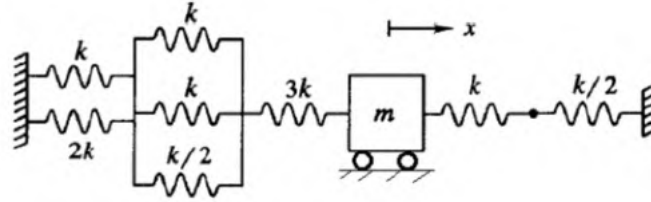

Fig. 1.
- b) Set up the equation of motion for the system shown in Fig 1 and hence determine its natural frequency **(10)**